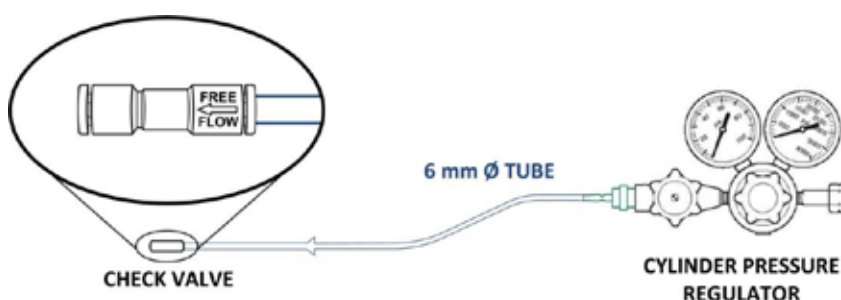

Fig 4
2. **Check valves** - Install the Check valves (provided in the package) along the gas line for each of the gas source in use. In order to do so, take the free end of the tube previously connected to the pressure regulator and insert it in the check valve through the push-in connector. Check valves allow the gas to flow through them in only one direction. Therefore the check valves must be installed in the direction of flow sense, i.e. from the cylinder to the Gas blender (Fig. 4). In case of different valves type use, please contact the MCQ support center.